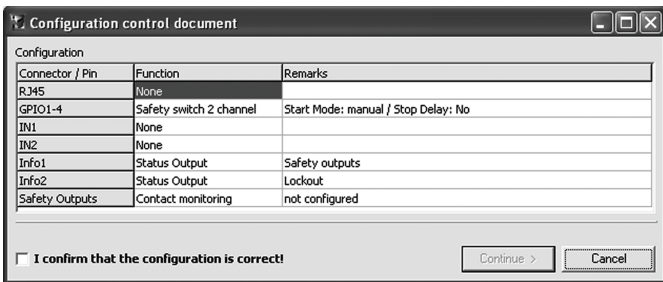

Figure 48: Control document
10. After the download has started, the window “Configuration control document” window will appear on your monitor (Figure 48).